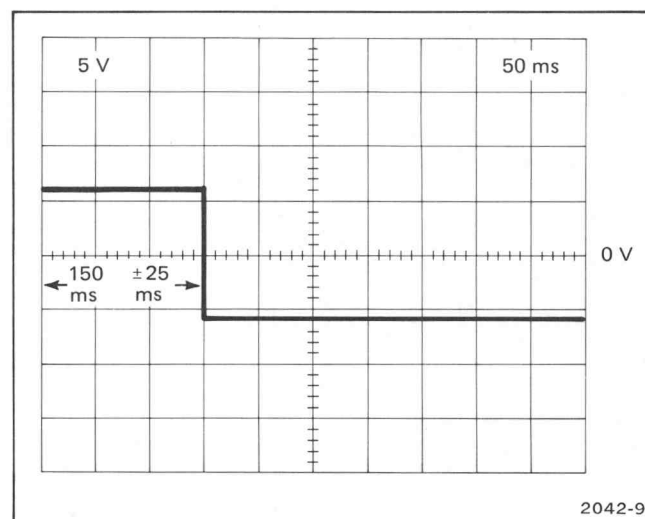

Figure 5-8. QRS width.
b. **CHECK**—Pulse duration at TP371 (ECG board) is 150 ms, ± 25 ms (see Fig. 5-8).